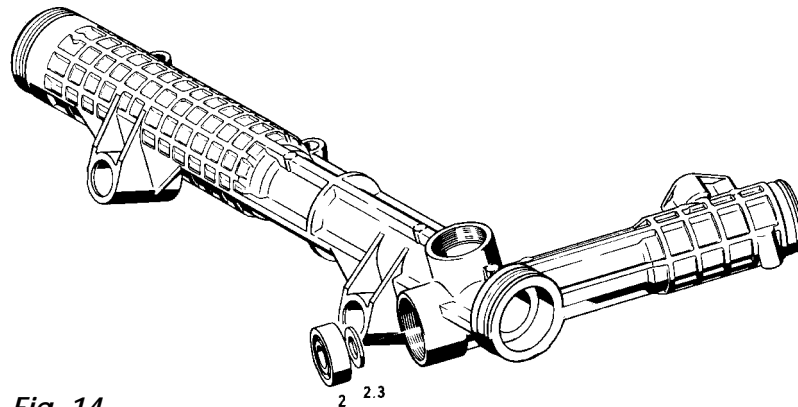

Fig. 14
If any wear is found on the journal of the rotary valve (81), press the ball bearing (2) out along with the washer (2.3), using an appropriate mandrel (*Fig. 14*).